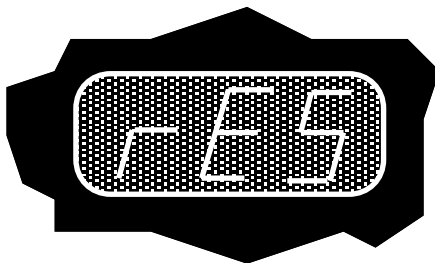

Figure 2-12. "rES" appearing on LED display, zeroing resolver
3. Turn the power OFF to Wintriss Brake Monitor. Then hold down the Reset/Select button *while* you turn the unit back on. Once "rES" appears on the LED display, release the button. The Resolver Zero Correction has been performed (Figure 2-12). In effect, Wintriss Brake Monitor electronically adds or subtracts the offset; so it always knows the true zero position of the ram. If the number is 0, it means the zero position of the resolver at TDC is 0° . When the press is at TDC, the crank angle value in the LED display should read 0° . If not, repeat the zeroing process. The system can only zero the resolver within a $\pm 30^\circ$ offset.